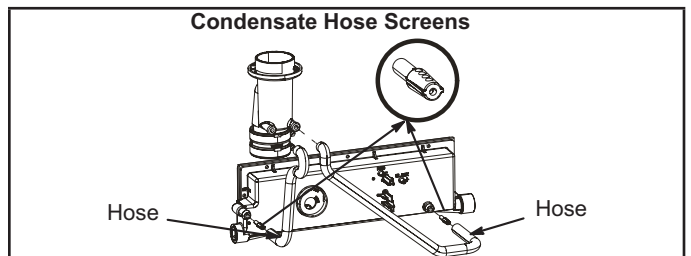

FIGURE 57
**Condensate Hose Screens (FIGURE 57)**